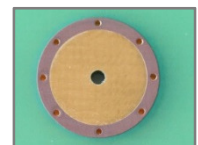

Figure 3
- In addition, the copper surface can be configured with vias. A via has the effect of a „rivet“ and enhances the connection to the base material of the circuit board (Fig. 3).